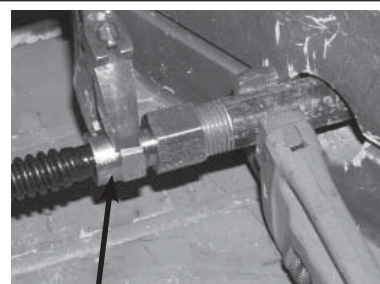

Fig. 13-4 Adapter on pan
6. Attach the flexible connector to the flare side of the connector kit fitting to the fuel injector or air mixer on burner pan (see Fig. 13-4) using Teflon tape or pipe compound resistant to propane gasses. Tighten securely.